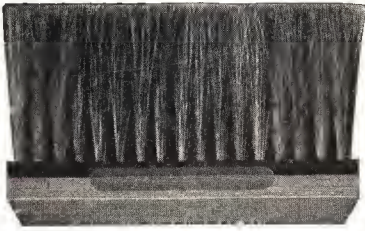

FIG. 21
**Wall Stippling Brush, Figure 21:** One manufacturer